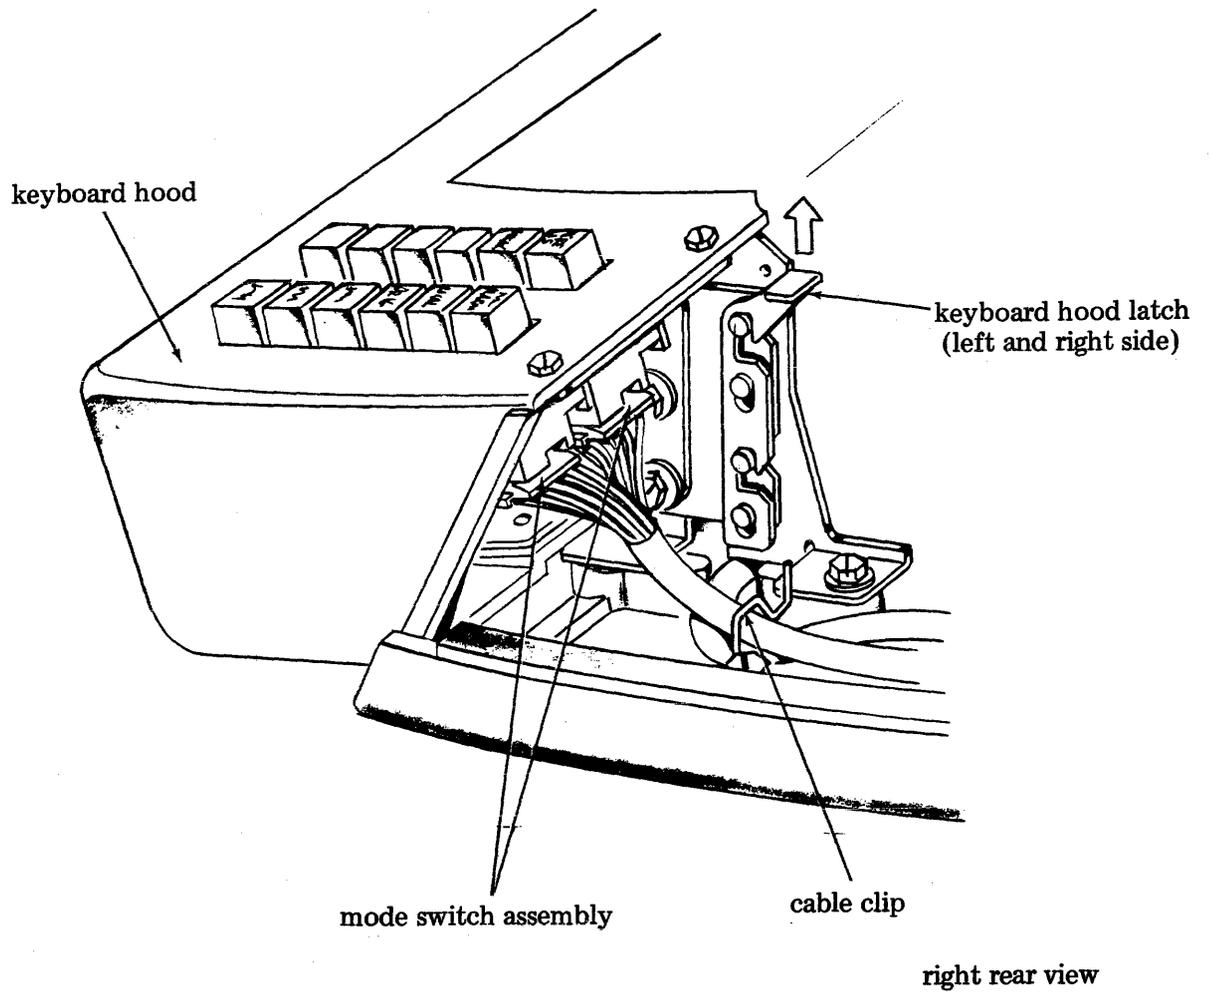

Figure 2 - Keyboard Hood
2.03 Remove keyboard hood (Figure 2) as follows: